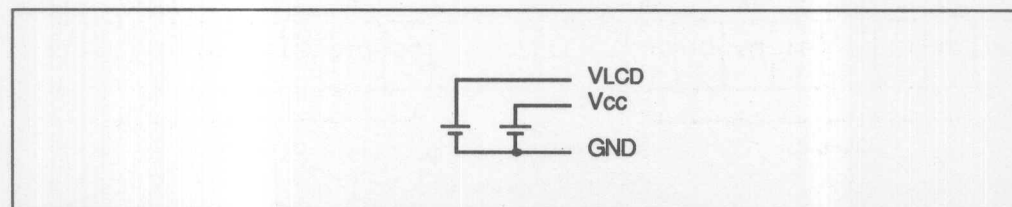

Figure 1 Power Supply for Logic and LCD Drive Circuits
**VCC, VLCD1, VLCD2, GND:** VCC – GND supplies power to the internal logic circuits. VLCD – GND supplies power to the LCD drive circuits. See figure 1.